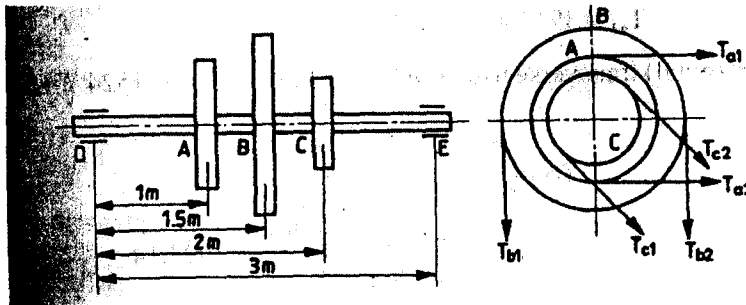

Fig. 3
- (b) Three pulleys, A, B and C are mounted on a simply supported shaft of 3 m span; at a distance of 1 m, 1.5 m and 2.0 m respectively from the left bearing as shown in Fig. 3. The diameters of pulleys, A, B, C are 500, 700 and 350 mm respectively. An electric motor supplies 15 kW power to the shaft at A, and machines take 9 kW power from B, and 6 kW power from C. A horizontal drive is arranged for A; the drive B is vertically downwards, and the drive from C is at 45° to the drive A, and in a downward direction. The speed of the shaft is 240 r. p. m. The shaft is made of plain carbon steel 40C8 ($S_{ut} = 650 \text{ N/mm}^2$ and $S_{yt} = 380 \text{ N/mm}^2$). The pulleys are keyed to the shaft. Determine the diameter of the shaft according to the ASME code, if $K_b = 1.5$ & $K_t = 1.0$. Assume angle of lap on each pulleys as 180° and coefficient of friction between the belts and pulleys as 0.3.